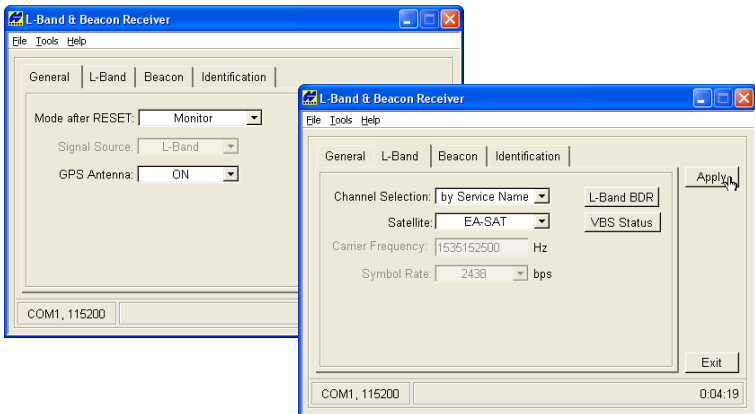

Figure 2-3. Modem-TPS – OmniSTAR Configuration
4. Once connected, select “Monitor” as the *Mode after Reset* and “ON” for the *GPS antenna*. Click **Apply** (Figure 2-3).
5. Click the **L-Band** tab, select the *Satellite* that corresponds to an active OmniSTAR subscription (Figure 2-3). This satellite must be the same as the satellite you subscribed to in “Step 2: Activate OmniSTAR Service (Optional Service)” on page 2-4.
3. Once connected, select "Monitor" as the *Mode after Reset* and "ON" for the *GPS antenna*. The *Signal Source* should be automatically set to "Beacon". Click **Apply** (Figure 2-3 on page 2-7).